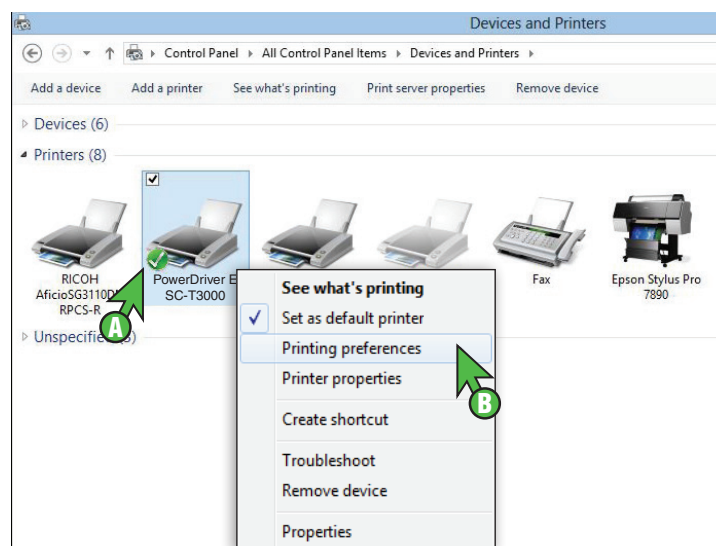

FIGURE 2
- 2) In the Devices and Printers folder, right-click on the PowerDriver E SC-T3000 icon and select **Printing Preferences** (see *FIGURE 2*). This will open the PowerDriver Printing Preferences window (see *FIGURE 3*).